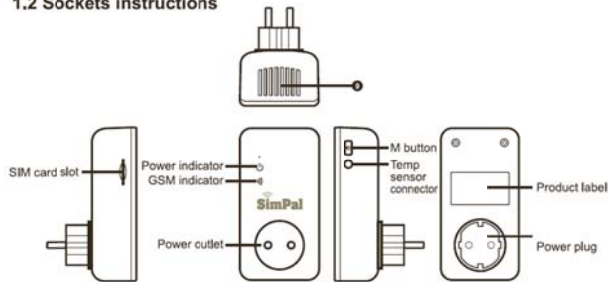

Figure 1: SimPal-T4 instructions
3. **M button** (See 5 on Figure1) can be pressed for about one second to switch on or off the socket output.
Method 1: To press **M button one second** (See 5 on Figure1).